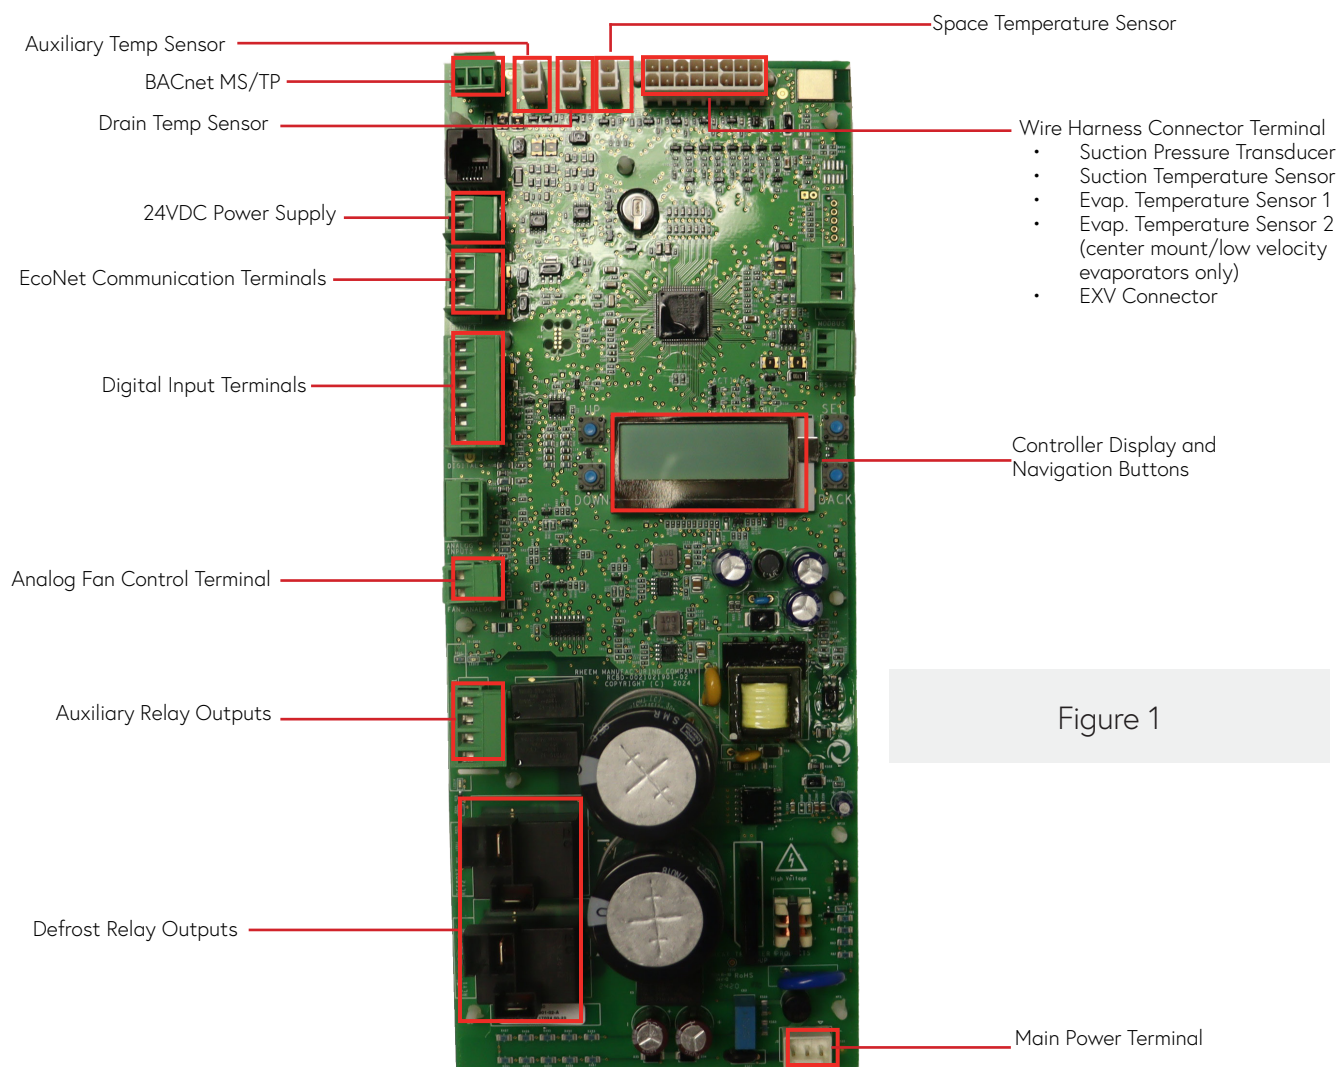

Figure 1
- Connect main power to the evaporator unit at the L1/L2 and GND terminals on the terminal board as shown in the wiring diagram (Figures 1 & 2).